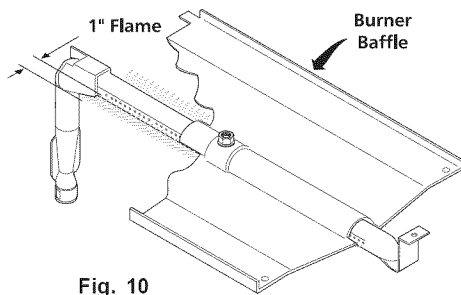

Fig. 10
The air shutter for the oven burner may need adjustment, especially if the appliance has been converted for use with LP/Propane gas. The approximate flame length of the oven burner is 1 inch (distinct inner blue flame; See Fig. 10).
- Observe the flame to determine if the broiler burner flame is properly adjusted. It should be steady with approximately 1" blue cones and no yellow or orange flame tips (See Figs. 10 & 11).